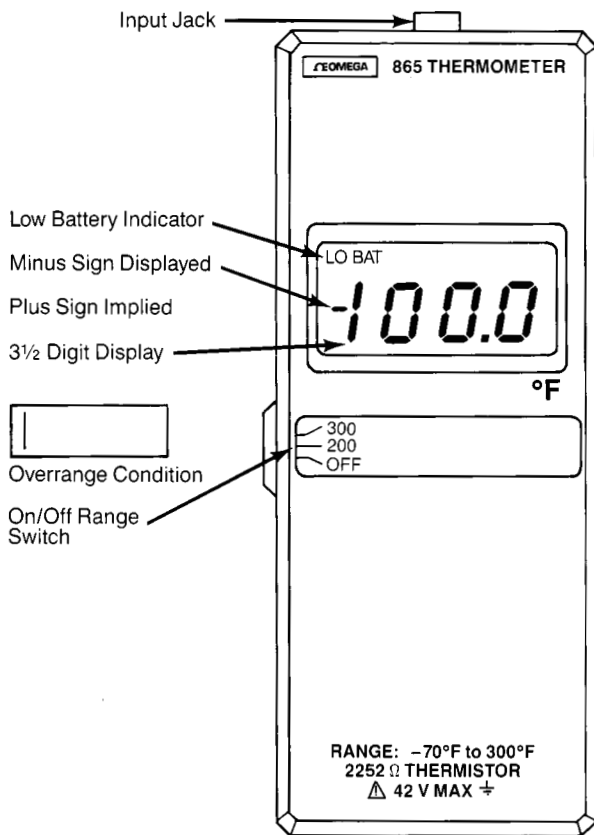

Figure 3-1 Model 865 Control Layout
3.2.1 Model 865 (See Figure 3-1)